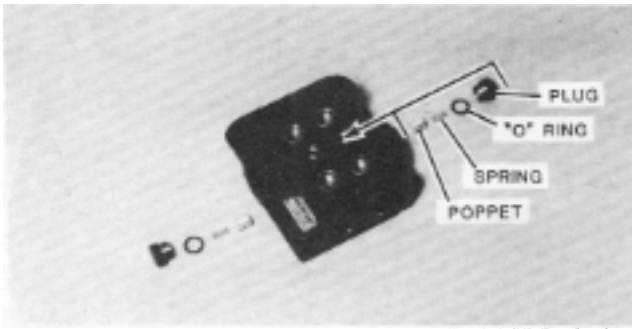

FIG. 19. Load Check Valves
9. Remove two load check valve plugs, "O" Rings, springs and poppets from valve (Fig. 19).
1. Coat two load check poppets and "O" Rings with lithium base grease (Fig. 19). Install plugs, "O" Rings, check poppets and springs into top center bores of valve.